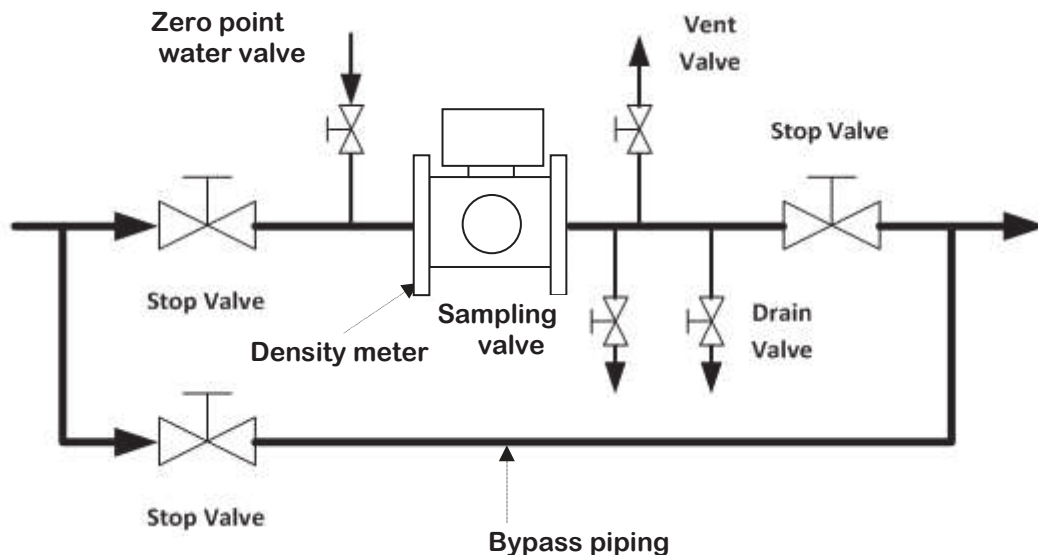

Fig.3.3.1 Meter mounted horizontally
Figures 3.3.1 through 3.3.4 are examples of density meter installation.
- (9) When you anticipate a marginal error between the side-to-side dimensions of this density meter and the installation space of the piping line, prepare a loose mechanism in advance.
- (10) To minimize the impact of the bubbles mingled, it is recommended that the meter be installed on a location as far as possible from the pipe outlet for air release but still within the distance where a reasonable degree of hydraulic pressure is applied.
- (11) In the event that the density meter may no longer be full of the fluid while the pump is shut down or the density distribution in the density meter may become uneven, make sure to take measurements only while the pump is operating by using the external interlock function.
- (12) Take necessary measures to prevent vibration from a pump or other equipment applied to the density meter transmitted through the piping.
- (13) On both the upstream and downstream sides of the density meter, install shutoff valves. Furthermore, between these valves and the density meter, install the sampling port, the zero water supply port, the air release port, the drain port with a shutoff valve attached respectively. In the event that the flow of the pipe line cannot be stopped, provide a bypass pipe halfway with a shutoff valve attached. When performing zero point calibration, these are needed to discharge the measured matter out of the density meter through its drain port and fill up the meter with fresh water of zero density. (See Fig.3.3.1 and Fig.3.3.2)
- (14) As for gaskets to be used in piping, select the one with the dimension conforming to the flange standard and of the material appropriate for the substance to be measured.
- (15) If the cover of the density meter is removed or the density meter is disassembled while the meter is powered, radio waves will leak out. (However, the amount is about equal to PHS and one tenth of mobile phones.)